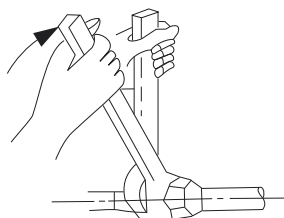

Fig. 11 – Tighten Flare Nut
6. Tighten flare nut and finish installation using two wrenches as shown in Fig. 11.
- Connect refrigerant piping and drain line outside of indoor unit. Refer to Fig. 11 for proper installation of the flare connections. Complete pipe insulation at flare connection then fasten piping and wiring to the wall as required. Completely seal the hole in the wall.